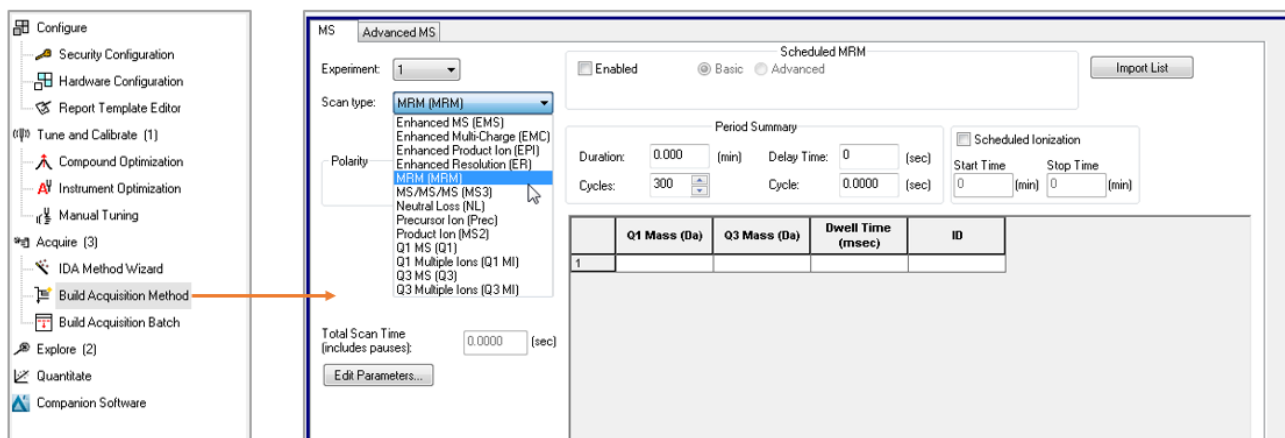

Figure B-1: Building an Acquisition Method in Analyst Software.
3. Double-click the Build Acquisition Method under Acquire [Figure B-1] on the left panel. From the drop-down menu, select MRM for the scan type.